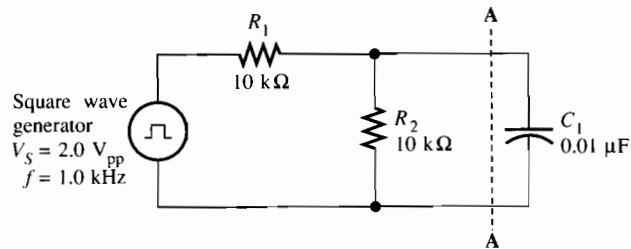

Figure 30–4
5. Assume you had connected a square wave to an oscilloscope but saw a signal that was differentiated as illustrated in Figure 30–2. What could account for this effect?
The rate at which a capacitor charges is determined by the RC time constant of the equivalent series resistance and capacitance. The RC time constant for the circuit illustrated in Figure 30–4 can be determined by applying Thevenin’s theorem to the left of points **A–A**. The Thevenin resistance of the generator is part of the charging path and *should* be included. The capacitor is not charging to the generator voltage but to a voltage determined by the voltage divider consisting of R_1 and R_2 . Predict the time constant and the waveforms across each resistor. Investigate carefully the waveforms across each of the components.